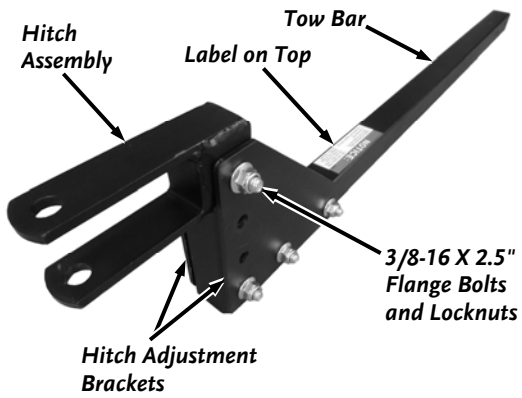

Figure 4
1. Loosely assemble the Hitch Assembly to the Hitch Adjustment Brackets with two Flange Bolts and Locknuts by hand (**Figure 4**).